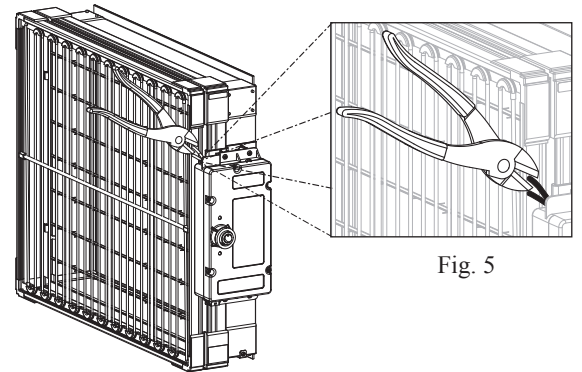

Fig. 5
- 5: Cut the two high voltage wires where they exit the power supply enclosure (Fig. 5).